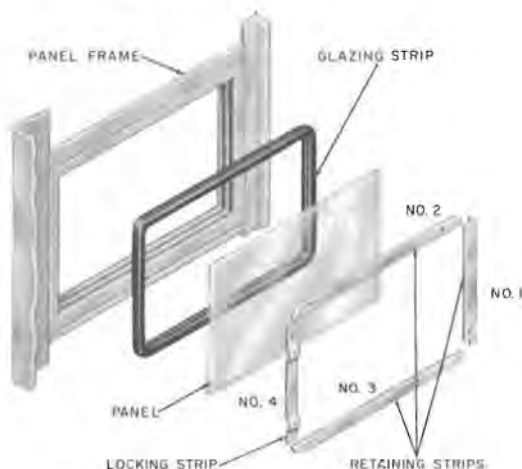

Fig. 23—Assembly of Side or Rear Panels
- 4.10** Booth panels and signs are held in place by four interlocking retaining strips. They are inserted in sequence as shown in Fig. 23. The No. 4 strip is rippled and is held in place by interface friction.
- (1) Remove No. 4 locking strip.
- (2) Remove retaining strips No. 2 and No. 3.
- (3) Remove retaining strip No. 1.
- (4) Remove panel and rubber glazing strip.
- (5) Apply rubber glazing strip to replacement panel.
- (6) Insert panel into frame with the beaded edge of retaining strip on the outside.
- (7) Replace retaining strips in sequence as shown in Fig. 23.
- 4.15 The side and rear signs are removed in the same manner as the side panels (Fig. 23).
4.45 Replace glass panels in same manner as side panels (Fig. 23).